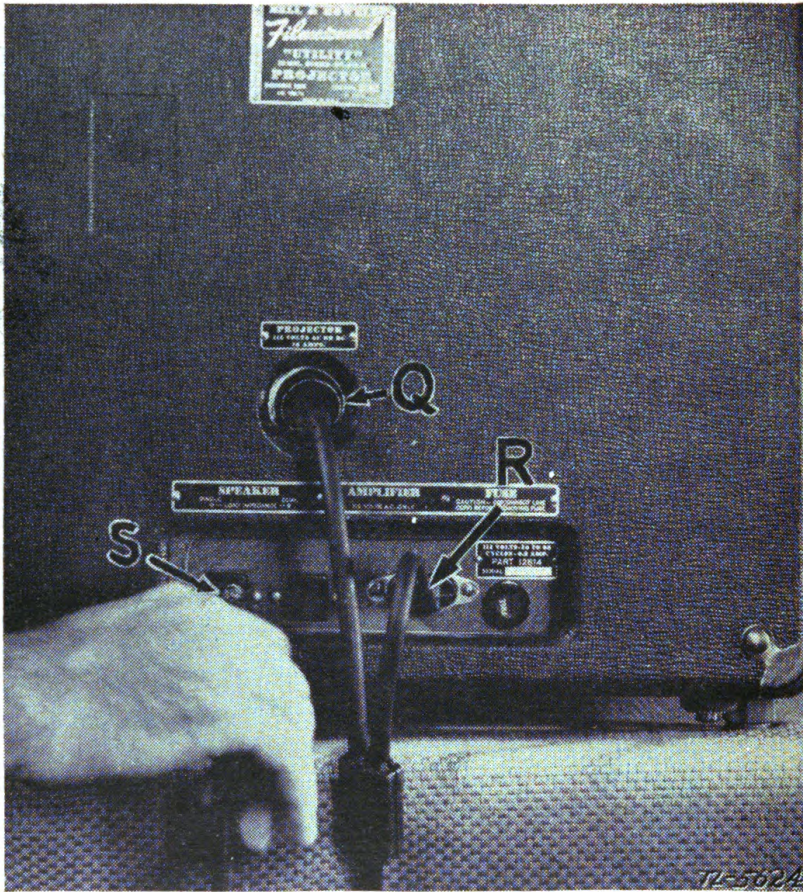

FIGURE 13.—Bell & Howell electrical connections.
(3) *Bell & Howell*.—Insert the female plug of the *Y*-power cable in the upper receptacle *Q* (fig. 13). Insert the male plug in the lower (amplifier) receptacle *R*. Connect speaker to projector by inserting the speaker cable plug in receptacle *S* on projector. Insert power plug into power source receptacle.